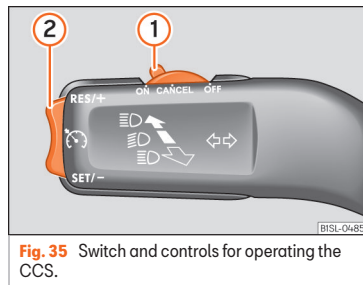

Fig. 35 Switch and controls for operating the CCS.
- Switching on the CCS: Move switch **>>> Fig. 35 ①** to **ON**. The system is on. If no speed has been programmed, the system will not control it.
- Activate the CCS: Press button **>>> Fig. 35 ②** in the **SET/-** area. The current speed is memorised and controlled.
- Temporarily switching off the CCS: Move switch **>>> Fig. 35 ①** to **CANCEL** or push the brake. The cruise control system is switched off temporarily.
- Reactivating the CCS: Press button **>>> Fig. 35 ②** in **RES/+**. The memorised speed is saved and controlled again.
- Increasing stored speed during CCS regulation: press button **②** in **RES/+**. The vehicle accelerates until the new stored speed.
- Reducing stored speed during CCS regulation: press button **②** in **SET/-** to lower the speed by 1 km/h (1 mph). Speed is reduced until reaching the new stored speed.
- Switching off the CCS: Move switch **>>> Fig. 35 ①** to **OFF**. The system is disconnected and the memorised speed is deleted.